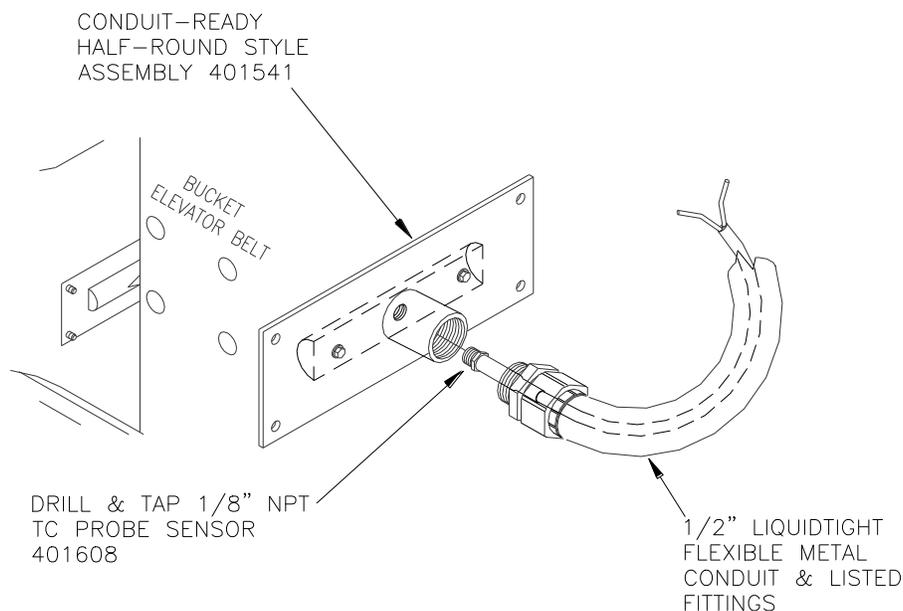

Figure 13. Rub Block & Drill & Tap 1/8-Inch NPT Probe Sensor
4.6.1. Belt Alignment Rub Block; (401541) A "RUB" includes a conduit-ready (1/2-inch size) coupling welded to a mounting plate. A half-round block of brass stock is bolted to the plate. It is prepared to accept the Drill & Tap Type Temperature Sensor. (See figure 13).
4.6.1.2.8. After you have made the appropriate size hole in the leg casing to accommodate the rub block, you can install the Drill & Tap Sensor into the pre drilled and tapped 1/8" NPT hole provided in the rub block. (See Figures 13 & 17).